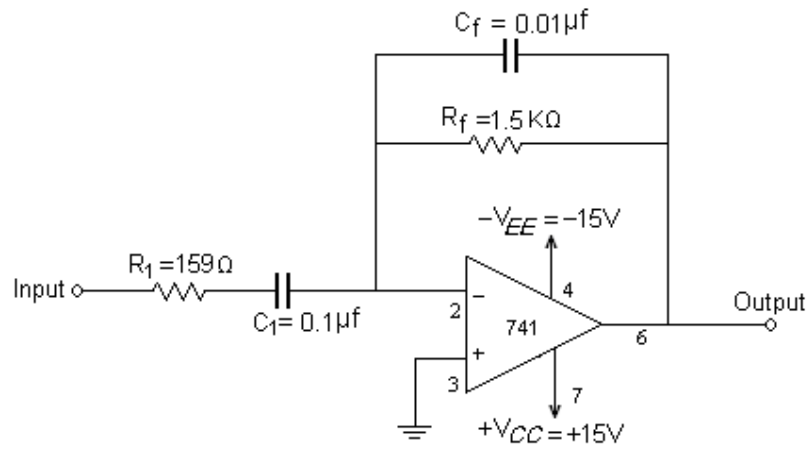

Fig 3: Differentiator
1. Connect the circuit as per the diagram shown in fig 3